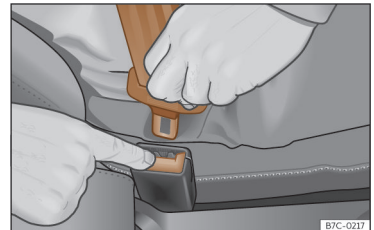

Fig. 14 Release the seat belt's buckle. »
- Press the red button on the buckle >>> **Fig. 14**. The latch plate is released from the buckle.